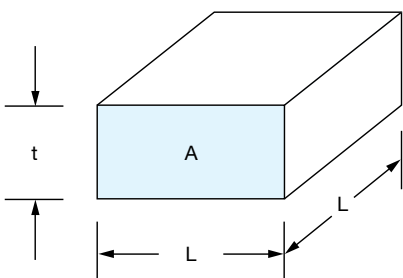

Figure 1 A square of copper can be represented with a length (L) and, because it is a square, a width (L) and a thickness (t).
Let’s start by looking at the square of copper represented by Figure 1. The copper has a length (L), and because it is a square, a width (L). It has a thickness (t), and the current flows through the cross-sectional area of copper (A). The resistance of this copper square is expressed simply as  $R = \rho L/A$ , where  $\rho$  is the resistivity of the copper (an intrinsic property of the material—0.67  $\mu\Omega$  in. at 25°C).